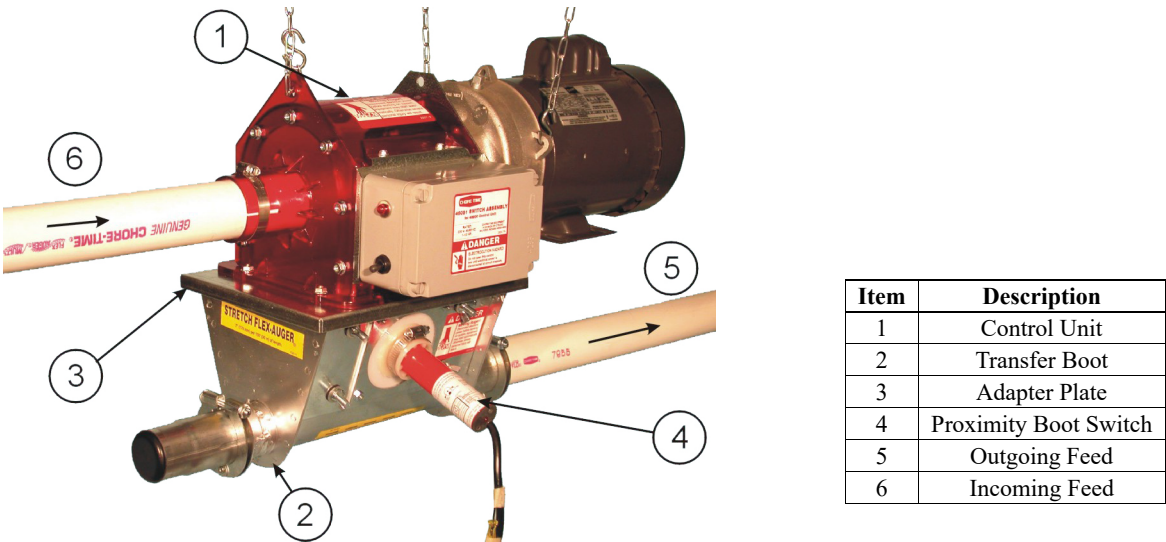

Figure 5. Control Unit/Extension Boot Installation--required for systems over 400 feet (122 m).
7. For lines over 400' (122 m), a Transfer Boot (w/switch), Adapter Plate, and Control Unit are required. Install as shown in **Figure 5.** near the center of the line.